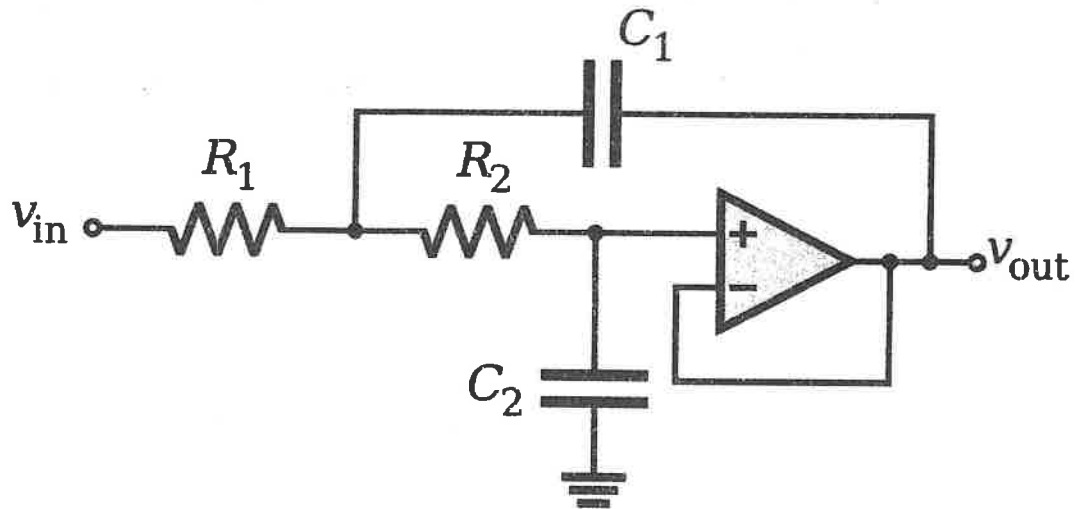

Fig.4 Second Order filter using Sallen key topology
- f) Derive the transfer function of a low pass 2nd order filter using a Sallen key topology given below in Fig.4 using R, C and s. (2 Marks)